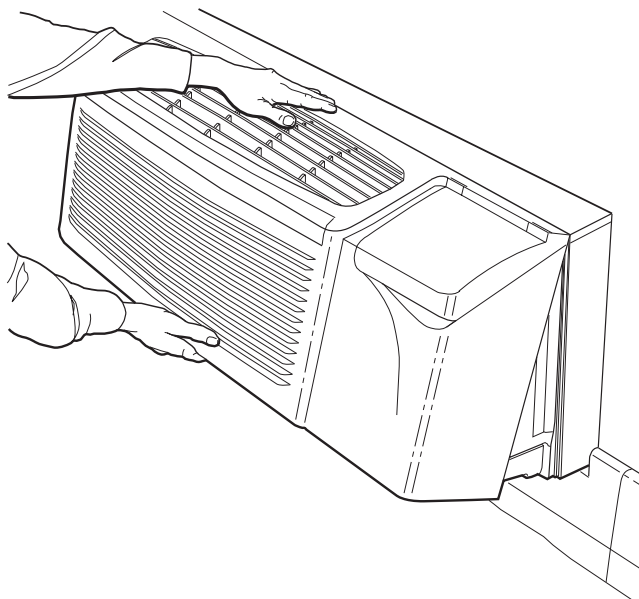

FIGURE 4 — REMOVING FRONT PANEL
2. Pull the panel upward at the bottom and forward at the top to release magnetic latches and partition hooks. See Figure 4.
1. Remove the front panel. Refer to **Remove Front Panel** section and Figure 4.
1. Grasp the front panel firmly at the center of the top and bottom of the panel, tilting it forward 5 to 10 degrees from the vertical. See Figure 4.